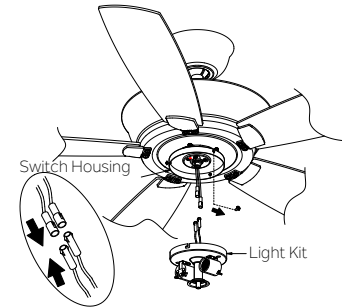

Fig. 22
Step 1. Remove 1 of the 3 screws from the switch housing and loosen the other 2 screws (do not remove). (Fig. 22)
Step 2. Hold the light kit close to the switch housing and connect the WHITE wires -from the light kit and fan by pushing the connectors together. Follow the same procedure with the BLACK wires. (Fig. 22)